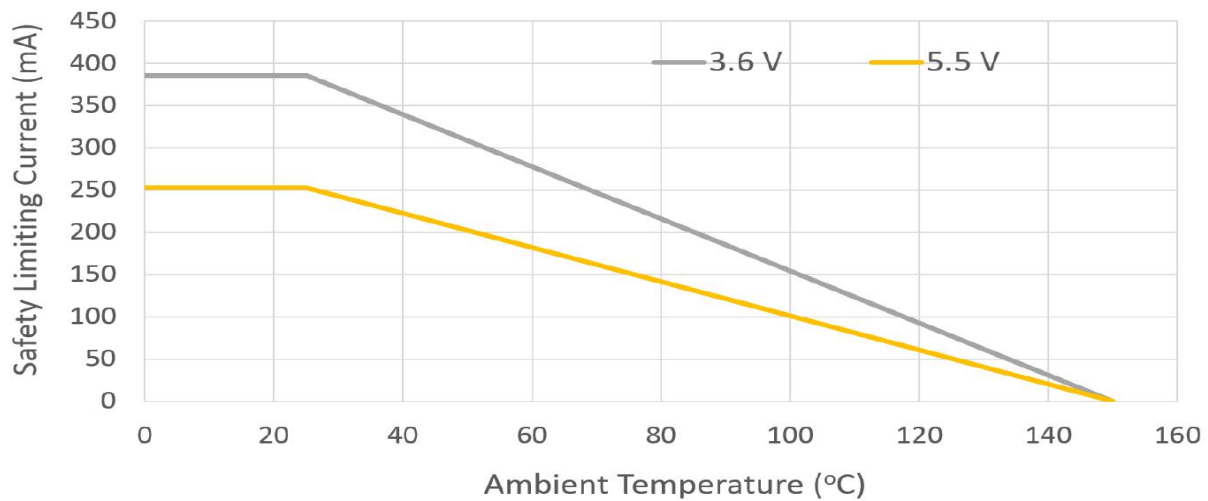
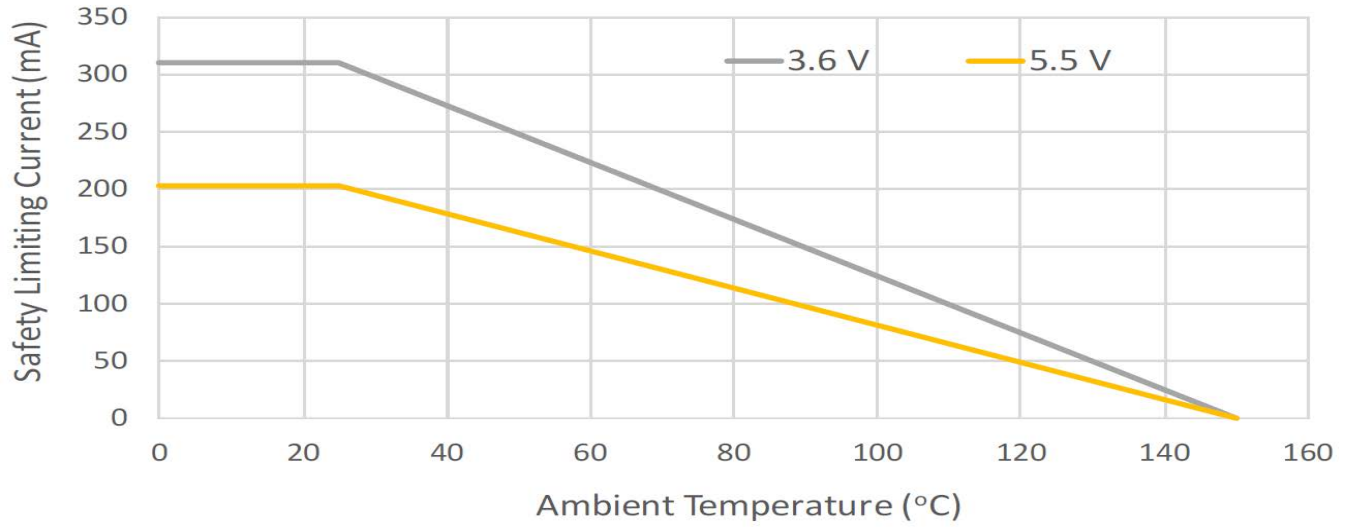

Figure 41. WB Stretched SOIC-8 Thermal Derating Curve (Dependence of Safety Limiting Current)
Figure 42. NB SOIC-8 Thermal Derating Curve (Dependence of Safety Limiting Current)
1. Maximum value allowed in the event of a failure. Refer to the derating curves Figure 41, “WB Stretched SOIC-8 Thermal Derating Curve (Dependence of Safety Limiting Current),” on page 19 and Figure 42, “NB SOIC-8 Thermal Derating Curve (Dependence of Safety Limiting Current),” on page 20.